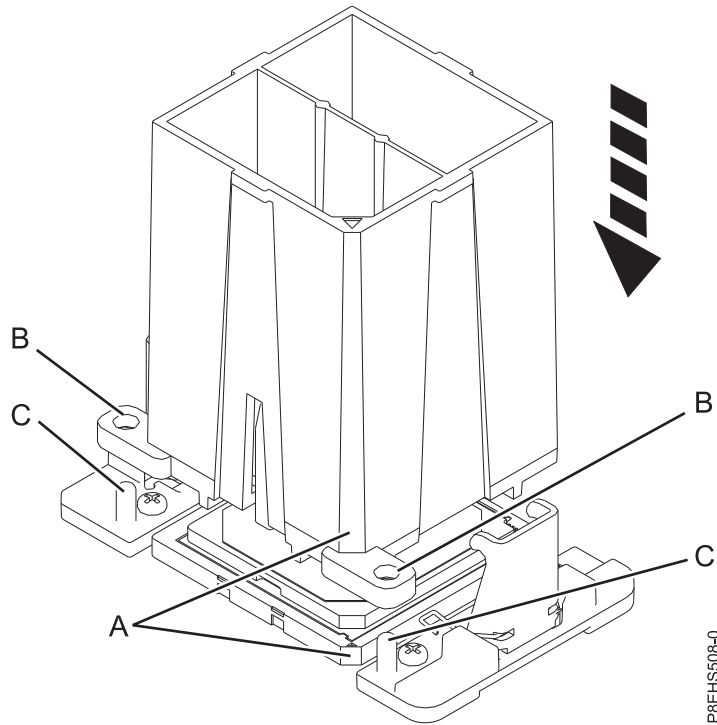

Figure 126. Lowering the removal tool onto the system processor module
- a. Using the supplied removal tool (part number 01AF101), align the beveled corner (**A**) of the tool over the beveled corner of the system processor module as shown in Figure 126 on page 108.